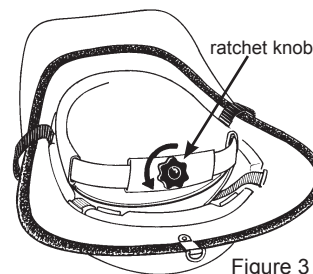

Figure 3
1. Turn the ratchet knob counterclockwise until headband is at largest size (Figure 3).